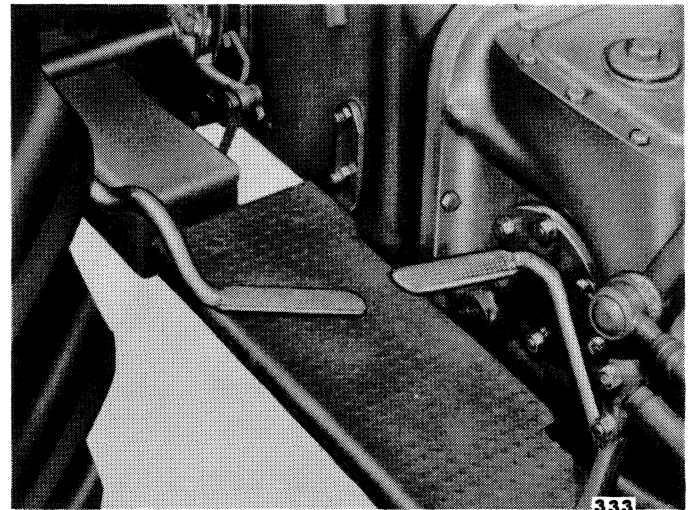

Figure 3—Brake Pedals Properly Adjusted
5. Adjust the length of the brake rod at the clevis to bring both brake pedals level, Figure 3. Install the clevis pin and cotter pin and tighten the clevis lock nut.
The brake pedals are located on the right side of the tractor on all models, and the shaft and linkage arrangement is similar, whether the tractor is equipped with a four speed, five speed, or Select-O-Speed transmission. Prior to 1958, the clutch shaft and linkage arrangement on a four speed transmission differs from that of a five speed transmission. Starting with 1958 models, the brake linkage is identical on all models. The brake pedal arrangement shown in Figure 3 was used prior to 1958.